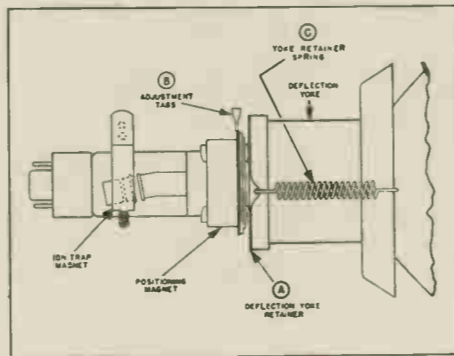

Figure 1
- 1. Place the magnet on the neck of the CRT as shown in figure 1.
Place STATION SELECTOR between channels to disable oscillator. Remove fuse, F201. Connect a short length of wire to pin 5 of V101 (see Figure 1). Use the lowest VTVM range for all steps.